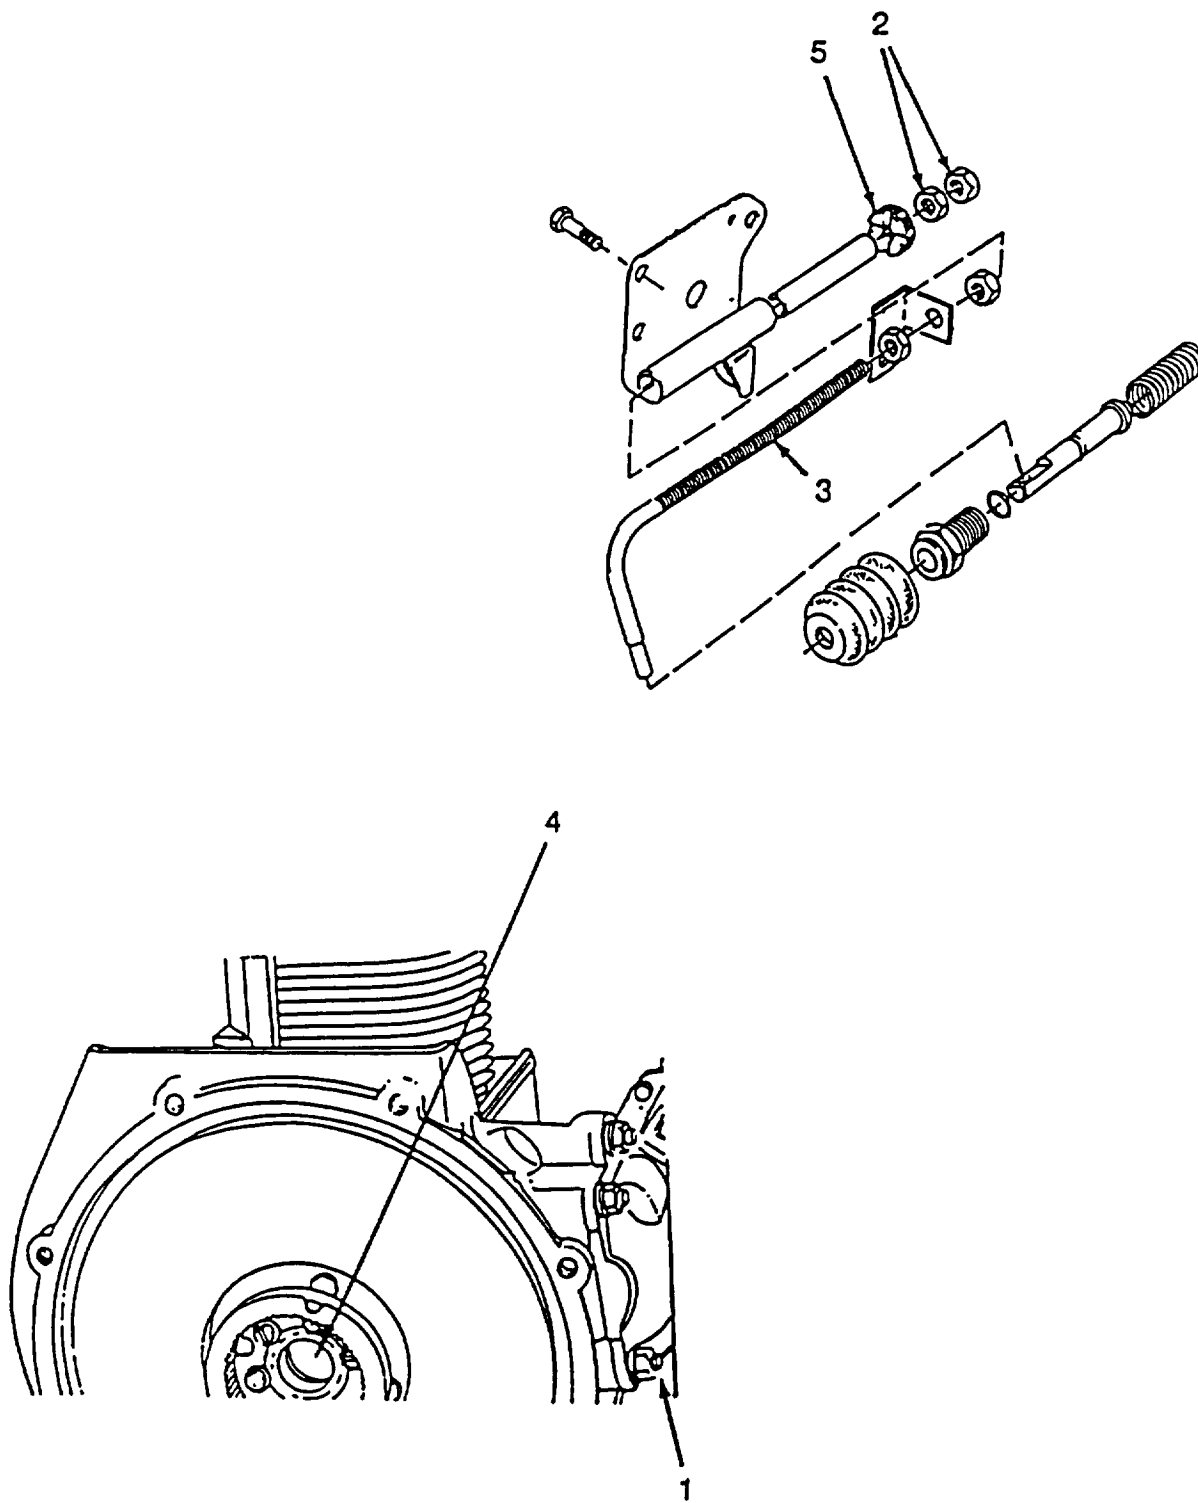

Figure 6-10. Engine Running-In
a. Run. (Refer to Figure 6-10).